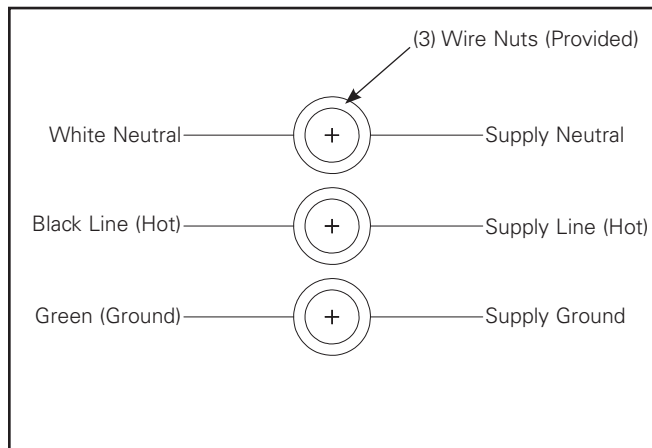

**Figure 7.**
1. Open fixture using screwdriver and allow access door to hang from ground tether. (Figure 7.)